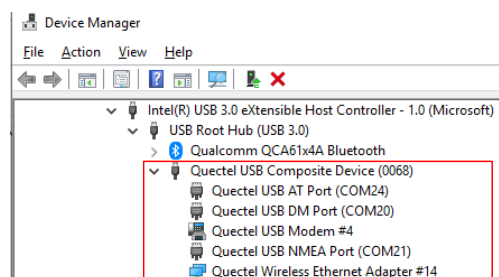

Figure 20: USB Device Exhibited in Device Manager
3. Select correct “COM Port” (the port number of USB AT Port, e.g., “COM24” as exemplified in **Figure 20**) and “Baudrate” (such as 115200 bps), and then click “Open Port”. For more details about the usage of QCOM, refer to **document [2]**.
3. Click the “**COM Port**” dropdown list and select the port number corresponding to “Quectel USB DM port” in the Device Manager (e.g., “COM20” as exemplified in **Figure 20**) and select “**Baudrate**”, as illustrated by the following figure.